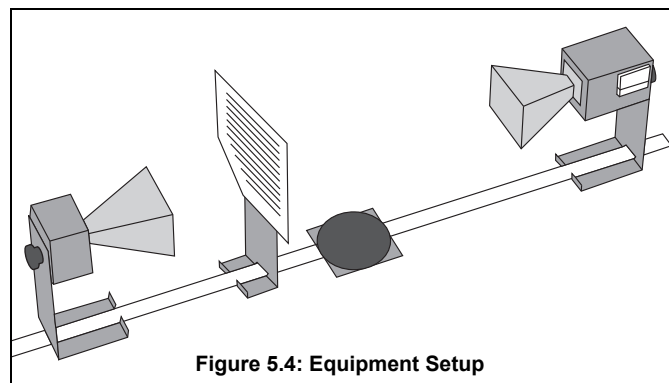

Figure 5.4: Equipment Setup
- Set up the equipment as shown in Figure 5.4. Reset the Receiver's angle to 0-degrees (the horns should be oriented as shown with the longer side horizontal).